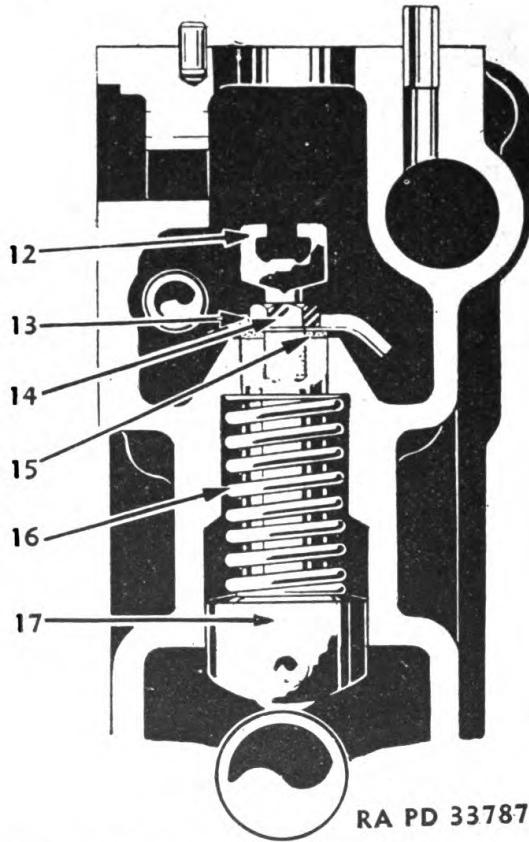

FIGURE 64.—Fuel injection pump lifter spring assembly—schematic.
- c. Remove yoke (12) (fig. 64), lock nut (14), and oil trough (13) from the top of lifter assembly (17) and lower the remainder of the assembly out the bottom of fuel injection pump housing. The lifter spring (16) can then be installed and the unit put back in position. Install a new gasket (15) if the old one is damaged.